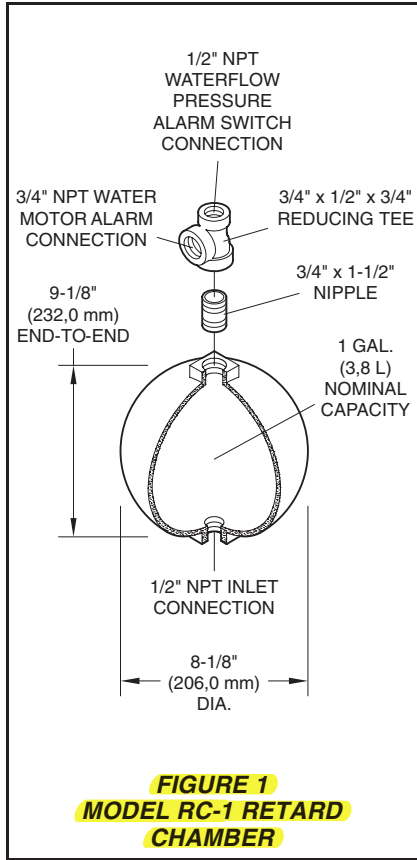
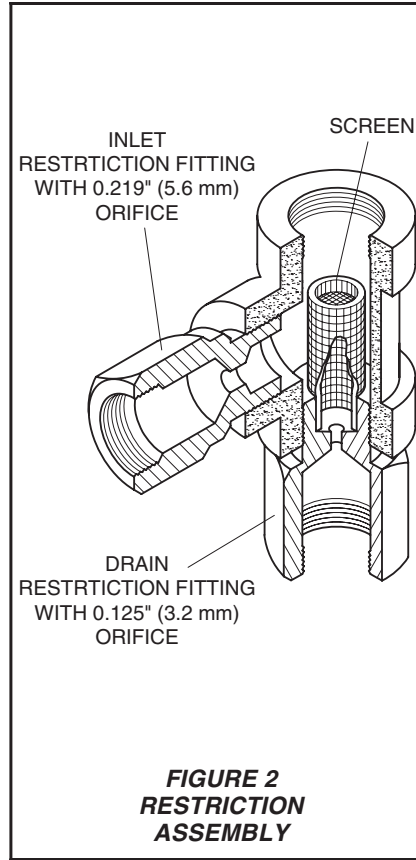
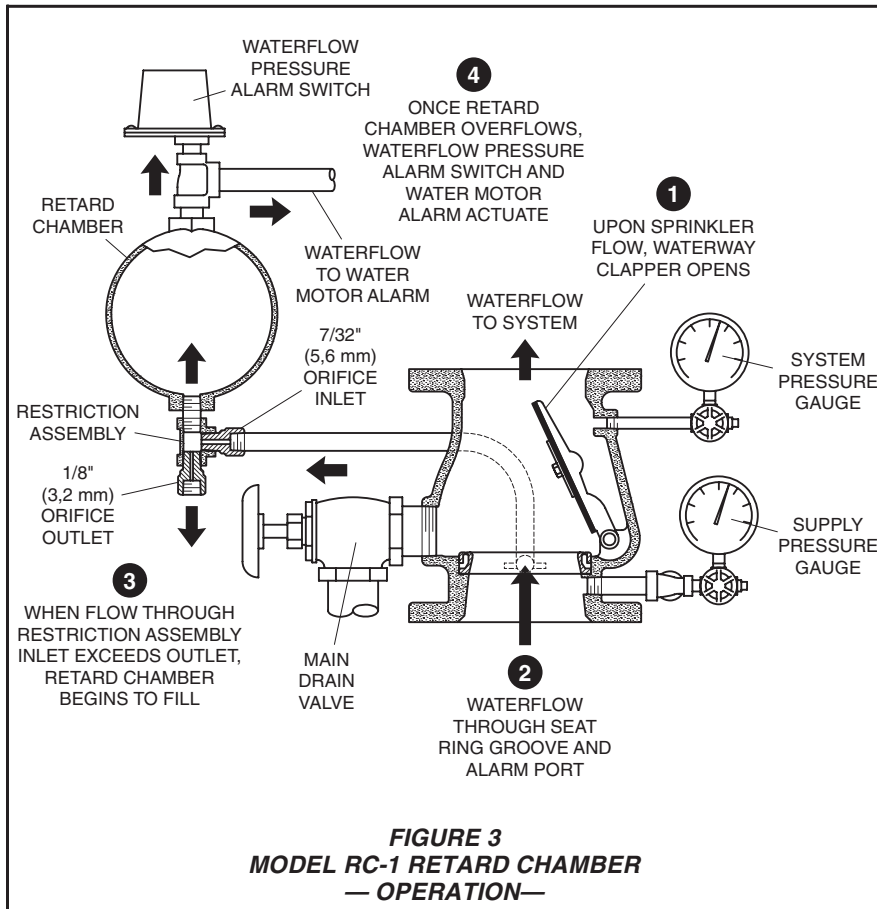

FIGURE 1
FIGURE 2
FIGURE 3
When there is a steady flow of water into the sprinkler system due to a sprinkler operation, the Waterway Clapper opens as shown in Figure 2. Water is then permitted to flow into the centrally located groove in the Seat Ring and out through the alarm port towards the Restriction Assembly (Figure 3). When the flow through the Inlet Restriction of the Restriction Assembly exceeds the flow through the Outlet Restriction, the Retard Chamber (where provided for systems with variable pressure), begins to fill.
to be actuated as long as the Waterway Clapper remains open. Water in the alarm lines will automatically drain out through the 1/8 inch (3,2 mm) Drain Orifice in the Restriction Assembly (Figure 3) when the Waterway Clapper closes (due to a stop in the flow of water into the sprinkler system).
The Model RC-1 Retard Chamber shown in Figure 1 is cast iron, and a 3/4" x 1/2" x 3/4" Tee is provided at the outlet (top) for connection of a pressure alarm switch and/or water motor alarm. The Restriction Assembly shown in Figure 2 is comprised of brass restrictions assembled to a cast iron or malleable iron threaded tee fitting. The screen is stainless steel.
When there is a steady flow of water into the sprinkler system due to a sprinkler operation, the Clapper in the Alarm Check Valve opens as shown in Figure 3. Water is then permitted to flow into the centrally located groove in the Seat Ring and out through the alarm port towards the Restriction Assembly (Figure 2). When the flow through the inlet restriction of the Restriction Assembly exceeds the flow out through the outlet restriction, the Retard Chamber begins to fill. Subsequently, the water motor alarm and/or the pressure alarm switch will be actuated. The alarms will continue to be actuated as long as the Clapper in the Alarm Check Valve remains open. Water in the alarm lines will auto-
matically drain out through the 1/8" (3,2 mm) drain orifice in the Restriction Assembly (Figure 2) when the Alarm Valve Clapper closes (due to a discontinuation in the flow of water into the sprinkler system).
The Model RC-1 Retard Chamber must be installed in accordance with the specific instructions provided with the Tyco Fire Products Model AV-1-300 (TFP910) or Model AV-1-175 (TFP912) Alarm Check Valves. The standard trim for these Alarm Check Valves includes all of the necessary components including the Restriction Assembly shown in Figure 2.
Step 1. Mark the through-wall locations for the centerlines of the Sleeve and Drain Outlet. The Drain Outlet must be located at least 10 inches (250 mm) below the Sleeve per Figure 2.
Step 4. Install the alarm line piping up to and including the union half, Item 4 - Fig. 2.